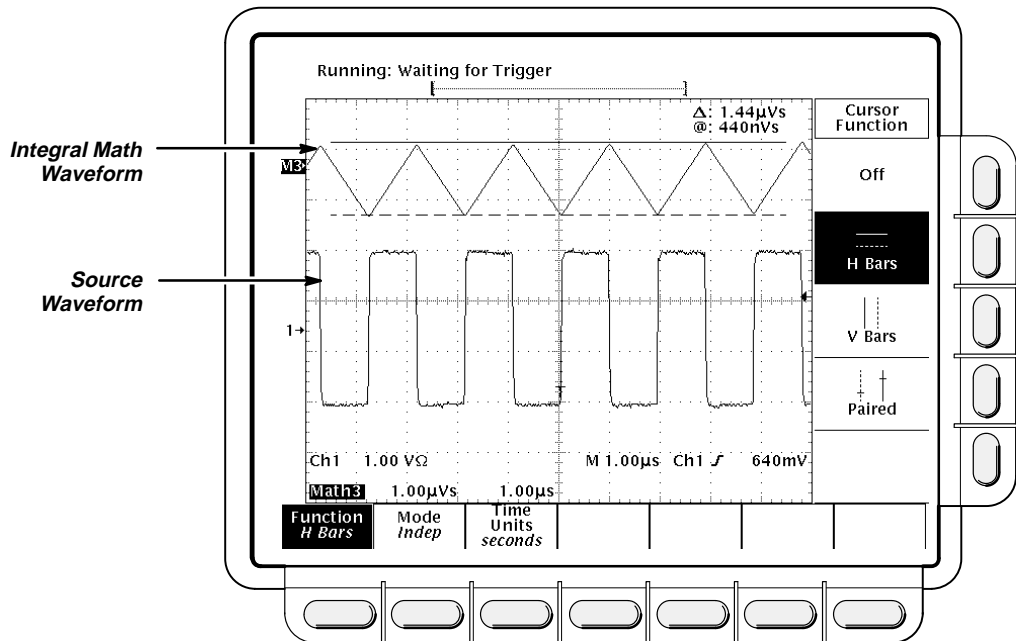

Figure 3-83: H Bars Cursors Measure an Integral Math Waveform
6. Read the integrated voltage over time between the cursors in volt-seconds from the **Δ:** readout. Read the integrated voltage over time between the selected cursor and the reference indicator of the math waveform from the **@:** readout. See Figure 3-83.